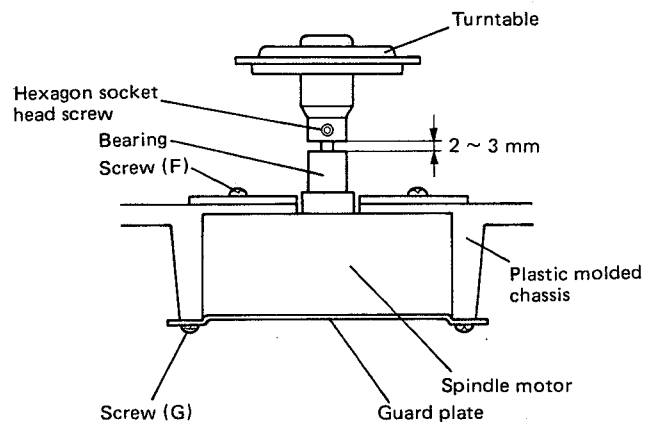

Fig. 23
1. Perform steps 4 through 8 of "SPINDLE MOTOR REPLACEMENT PROCEDURES" in reverse order, and fix the spindle motor to the plastic molded chassis by screws (F).
2. After full insertion of the turntable to the spindle motor shaft, keep the turntable 2–3 mm away from the bearing of the spindle motor shaft and tighten the hexagon socket head screw temporarily. (Fig. 23)